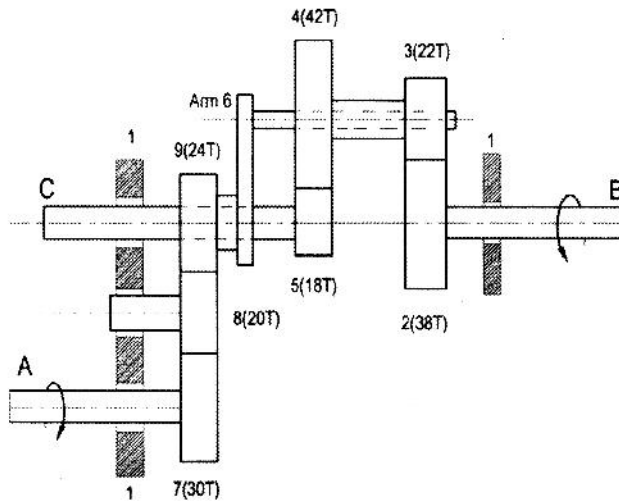

Figure 5
7. a) For the gear train in the fig. 5, shaft A rotates at 300 rpm and shaft B at 600 rpm in the directions shown. Determine the speed and the direction of rotation of shaft C.